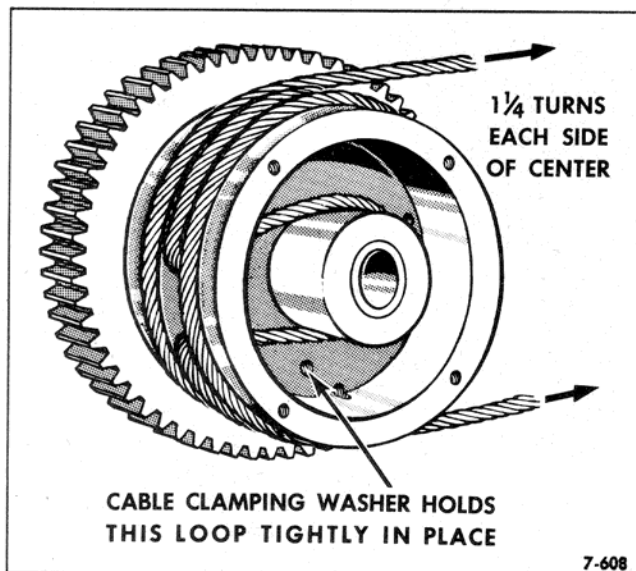
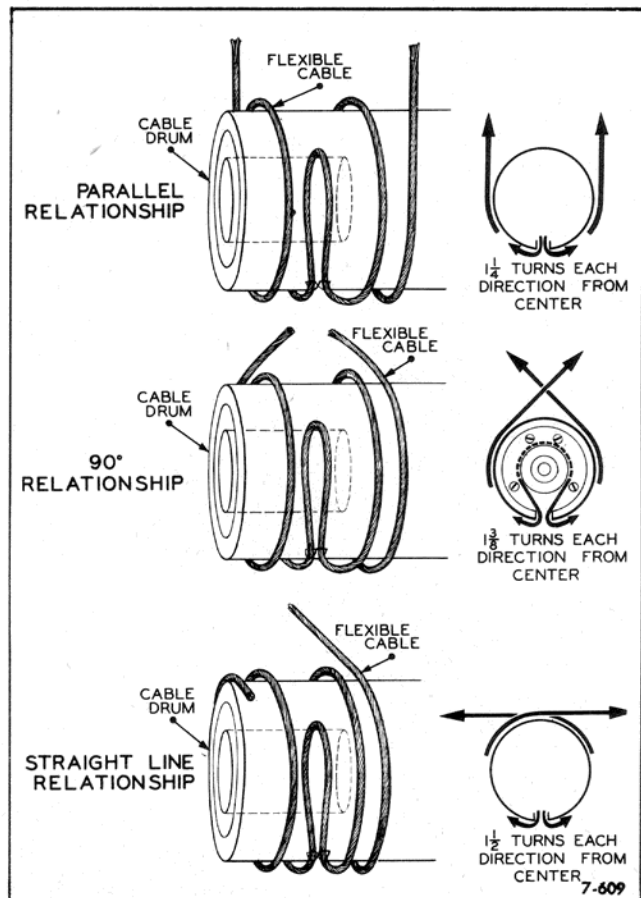

Figure 264—Cable Looped Around the Cable Drum Hub
Figure 265—Arrangement of Cable on the Cable Drum
e. Turn the drum so its slot faces away from the main cable. Insert the loop through the cable drum slot and lay it around the hub of the cable drum as shown in figure 264. Then remove the ends of the cable from the clamps and tighten wind each end of the cable at least $1\frac{1}{4}$ turns around the drum, making a total of $2\frac{1}{2}$ turns of cable on the drum. This will make the cable ends parallel with each other, as shown at the top of figure 265. If a 90 degree or straight-line cable relationship is required, cross the cable ends as shown in the center or bottom illustration of figure 265. Make sure the slot through which the cable loop passes into the drum is opposite the direction of cable lead-off.